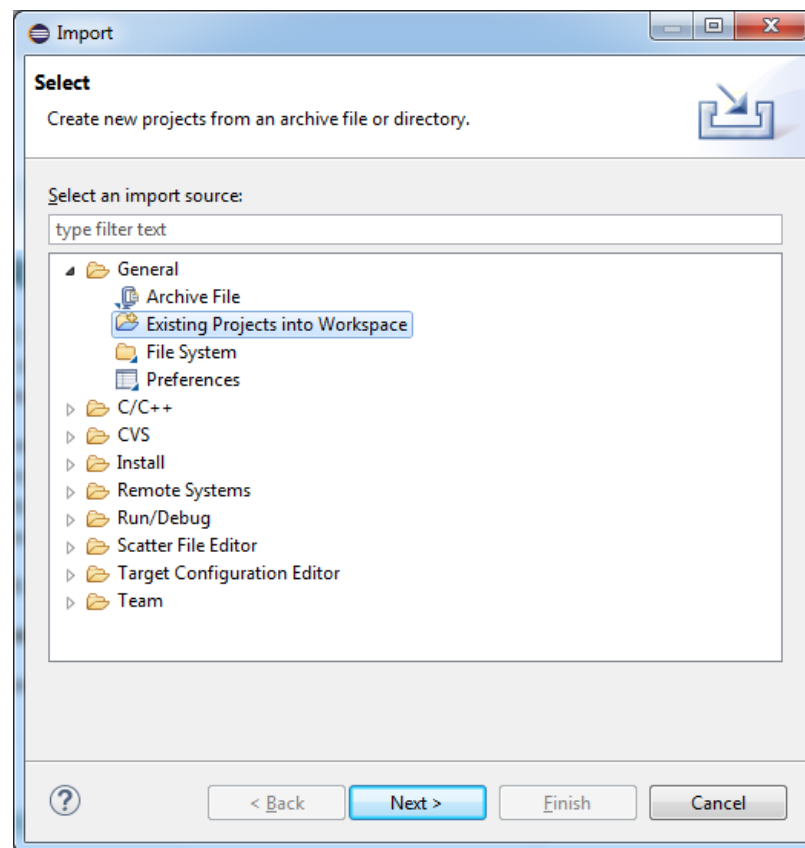

Figure 4 - Import Existing Projects
- a. Go to File → Import → General → “Existing Projects into Workspace” and click the “Next” button as shown in Figure 4.